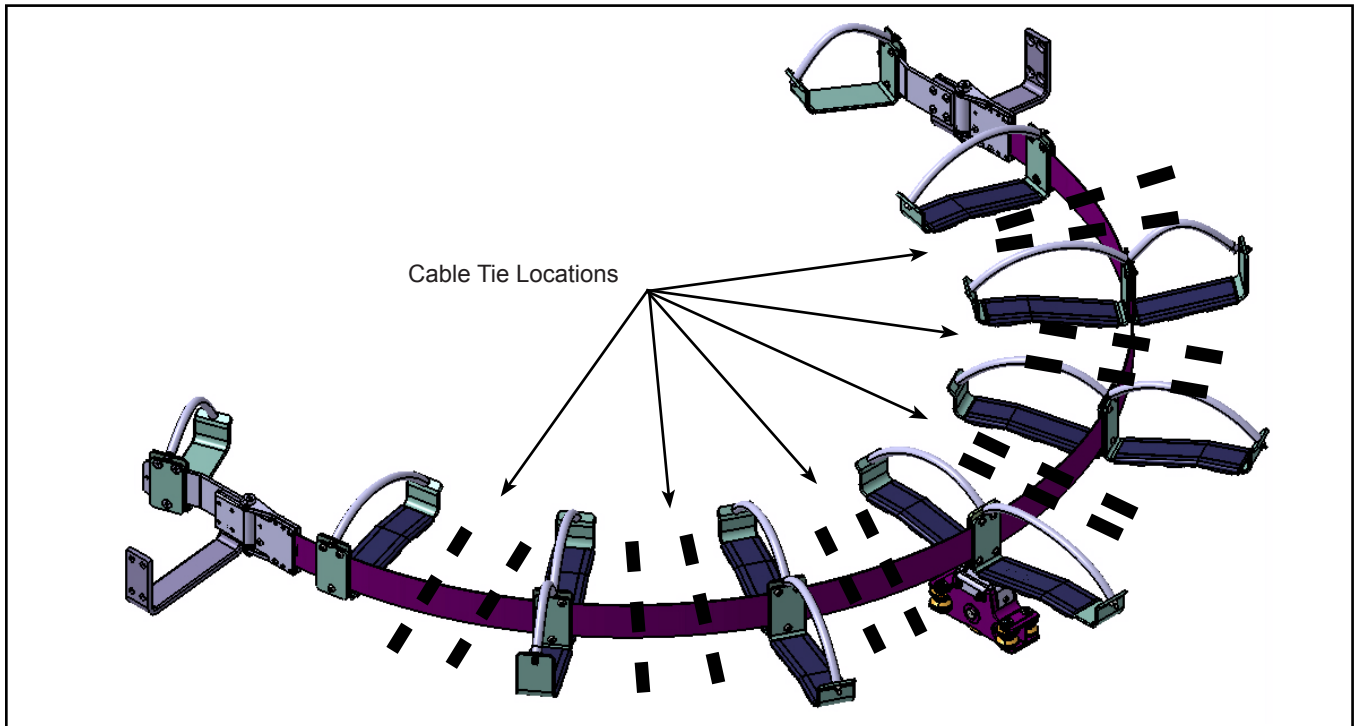

Figure 18 - Cable Tie Locations
1.21. For the new positions of the cable ties, see Figures 18. Remove the original cable ties facing the trays.